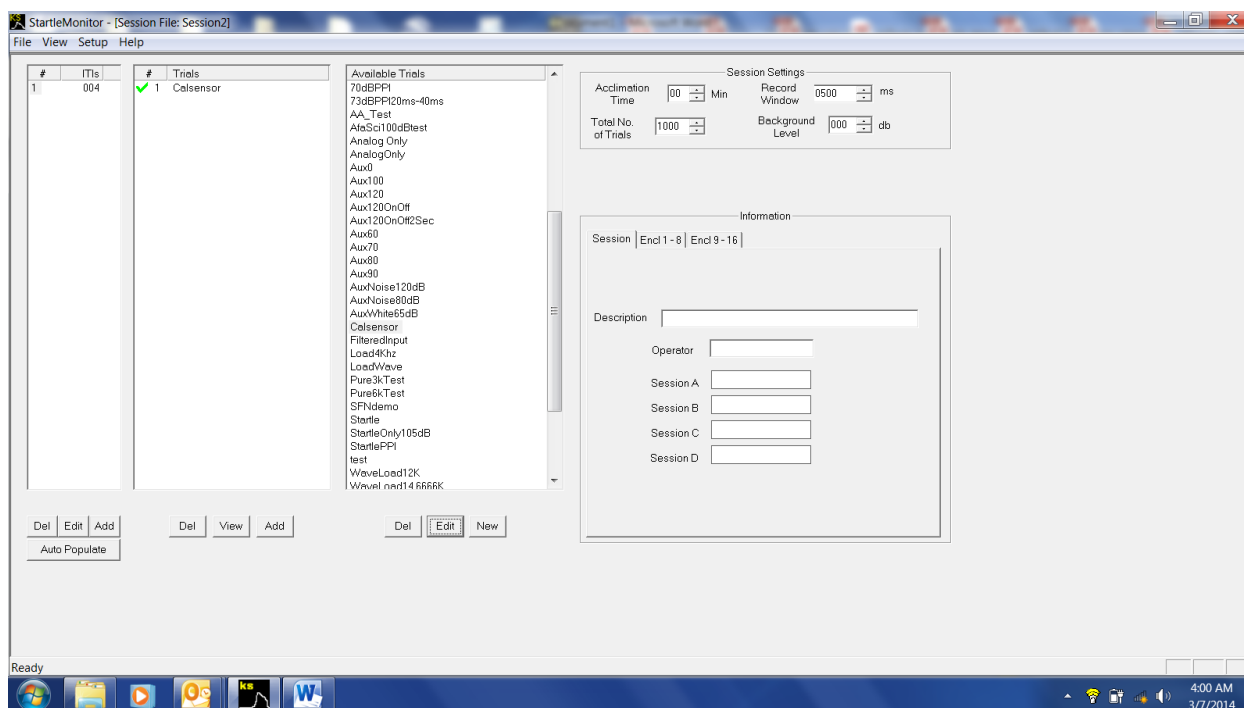

Figure 113 CalSensor Session Example
Step 5. Create a session named **CalSensor** like the one shown in Figure 113. You may decide to have more iterations, but the approach should be the same. For GLP requirements you may want to enter the Study number in one of the Session Information fields for reference and proof and attach a copy of the reduced data to that study. Additionally, you may not have all 16 enclosures, and you would therefore select only the ones you have. The System will produce sound only in those chambers that are selected.